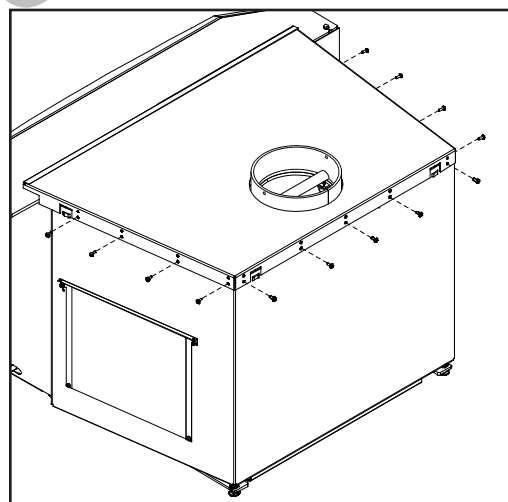

Figure 9: Removing Cabinet Top from Unit.
3. Remove the Air Deflector (shown in Figure 9) by removing the two (2) T-20 screws.